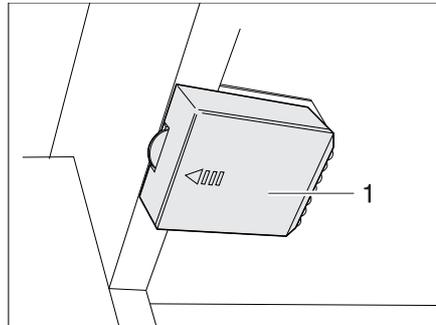

Fig. 182 Wardrobe light with LED, battery compartment closed
- Push the cover (Fig. 182,1) in the direction of the arrow.